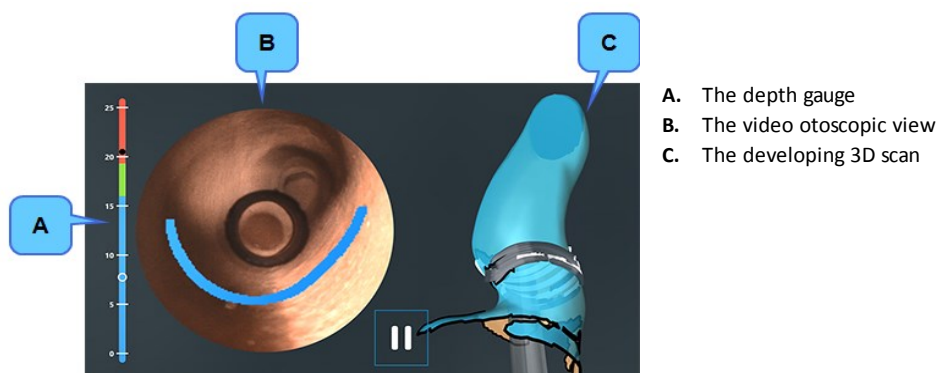

Fig. 22 The live scanning view in **Canal Ring** mode
- Using a suitable bracing technique, slowly insert the probe tip, while monitoring the scanning process on the screen of the scanner. The screen items that you see during scanning are explained in detail below with reference to Fig. 22 The live scanning view in Canal Ring mode ▶ 27.